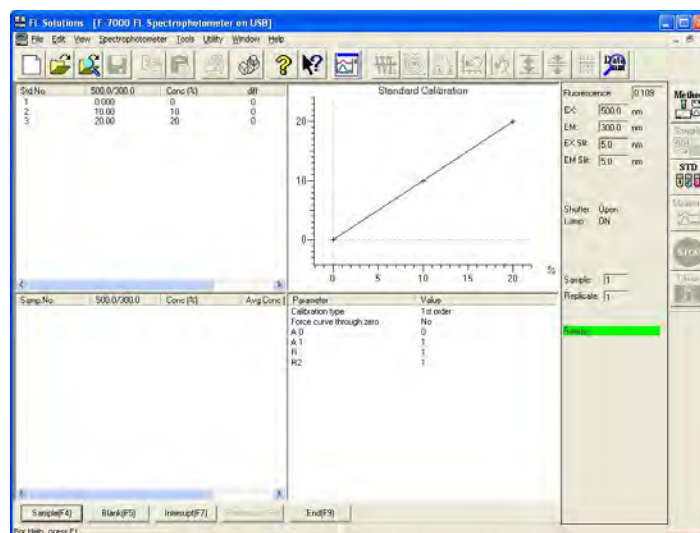
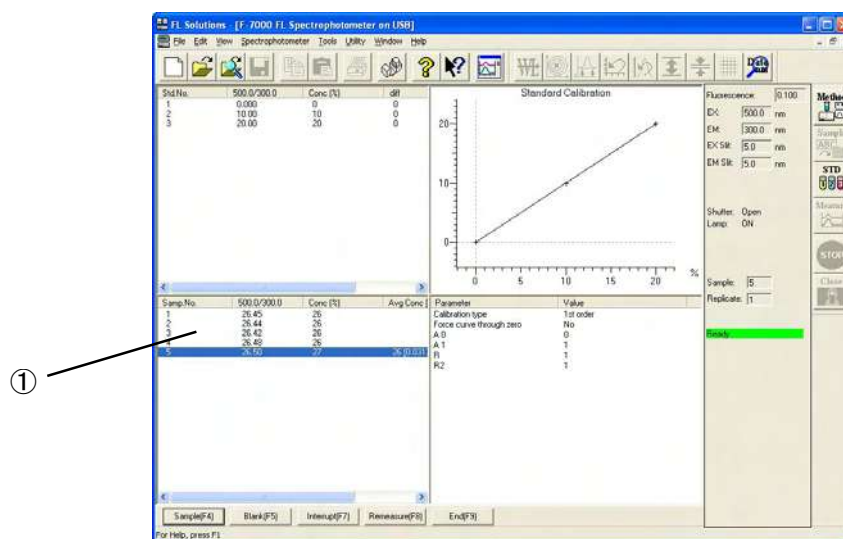

Fig. 9-3
Fig. 9-4
By clicking **OK**, a calibration curve is drawn and then samples can be measured. When a window as in Fig. 9-3 appears, press the sipping lever. The result of measurement will appear in the area indicated by ① in Fig. 9-4.